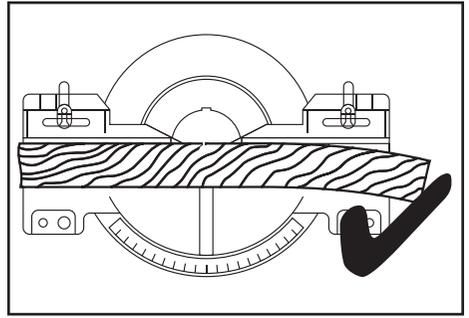

FIG.19
9.6 CUTTING CURVED OR WARPED MATERIAL – FIGS.19 – 20